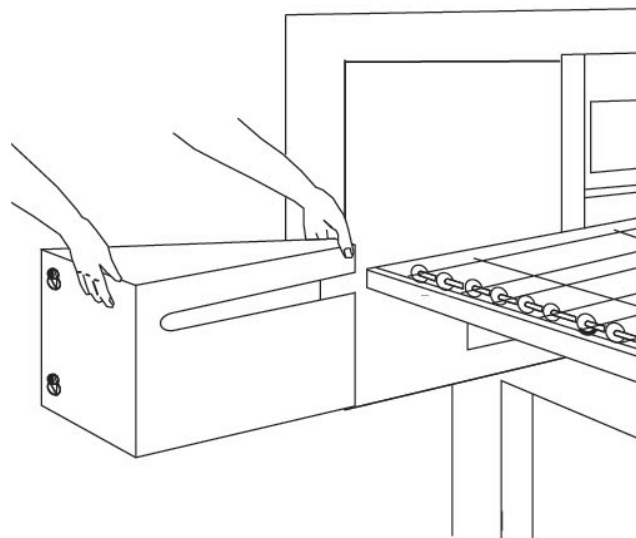

Figure 28.
3. Remove motor housing guard (Figure 28).